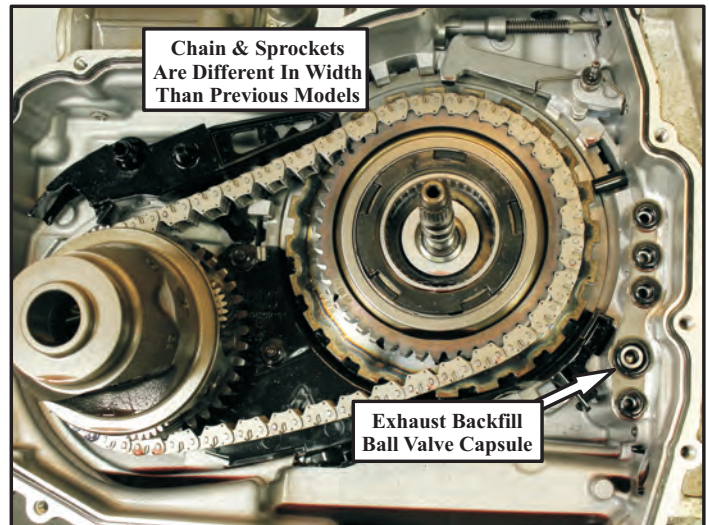

Figure 11
- (7) The transmission drive chain is now 1.106 inches wide and drive and driven sprockets that accommodate the chain width (figures 11 and 12).
- (8) The transmission case is deeper to accommodate wider parts (figure 11).